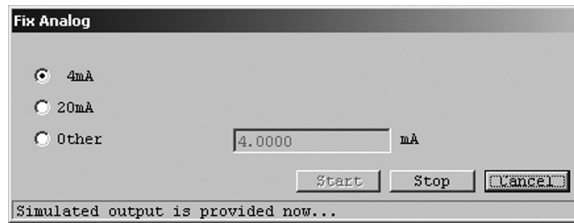

Fig.59
- ④ In response to clicking on "OK" button, a preselected analog output appears. While this output stays on, a message "Simulated output is provided now..." appears as shown in Fig. 59. To stop the simulated output, click on "Stop" button.